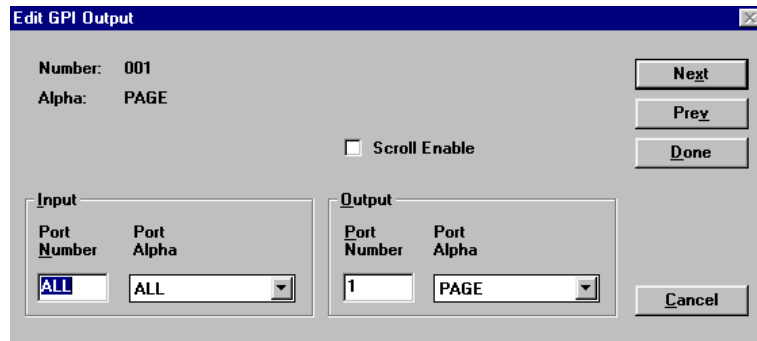

FIGURE 29. Setting up a GPI output to activate whenever anyone talks to a particular output port.
- Set up the GPI output that activates whenever anyone talks to the intercom port where the paging amplifier is connected. Figure 29 shows an example of this. The advantage to this approach is that once you have setup the GPI output, you do not have to think about it anymore. Just assign any number of keypanel keys to talk to the paging audio output, and the GPI output will automatically activate to key the paging amplifier whenever any of these keys are pressed. To get help on GPI Output setup, click the GPI Out button, then press F1 for help.